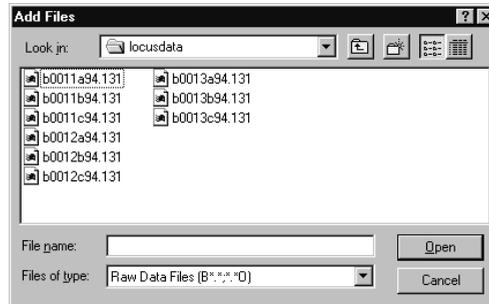

Figure 4.8. Add Files Dialog Box
1. Select **Add data from disk** from the **Project** menu. The **Add Files** dialog box opens (Figure 4.8).